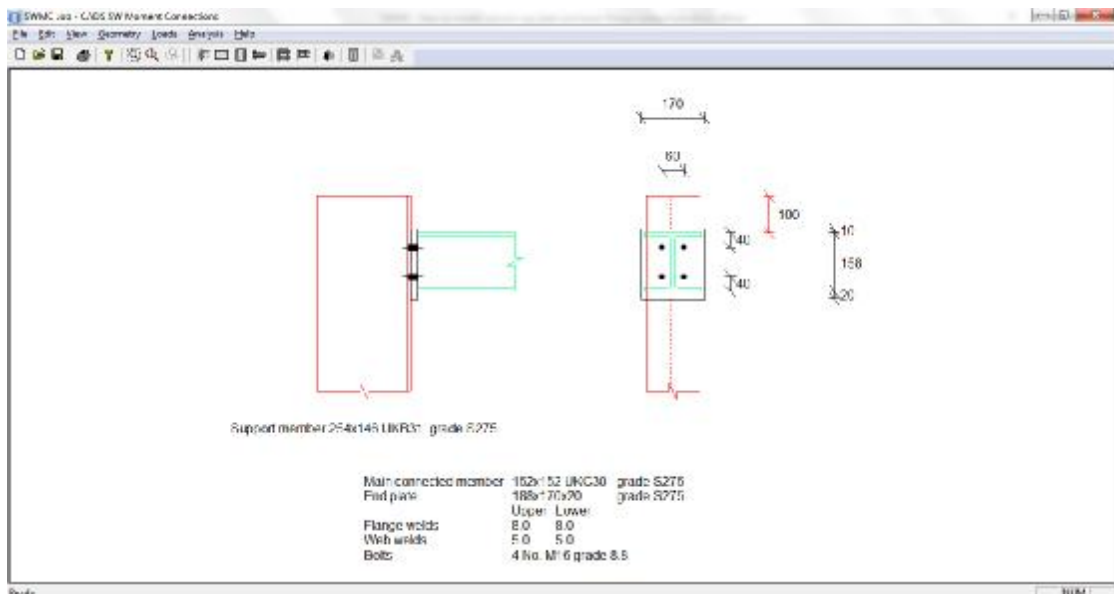

Fig 4.9 Quasi-column flange connection.
- The main view should now change to show the updated sections in their rotated position in the quasi-column flange arrangement as shown in fig 4.9.